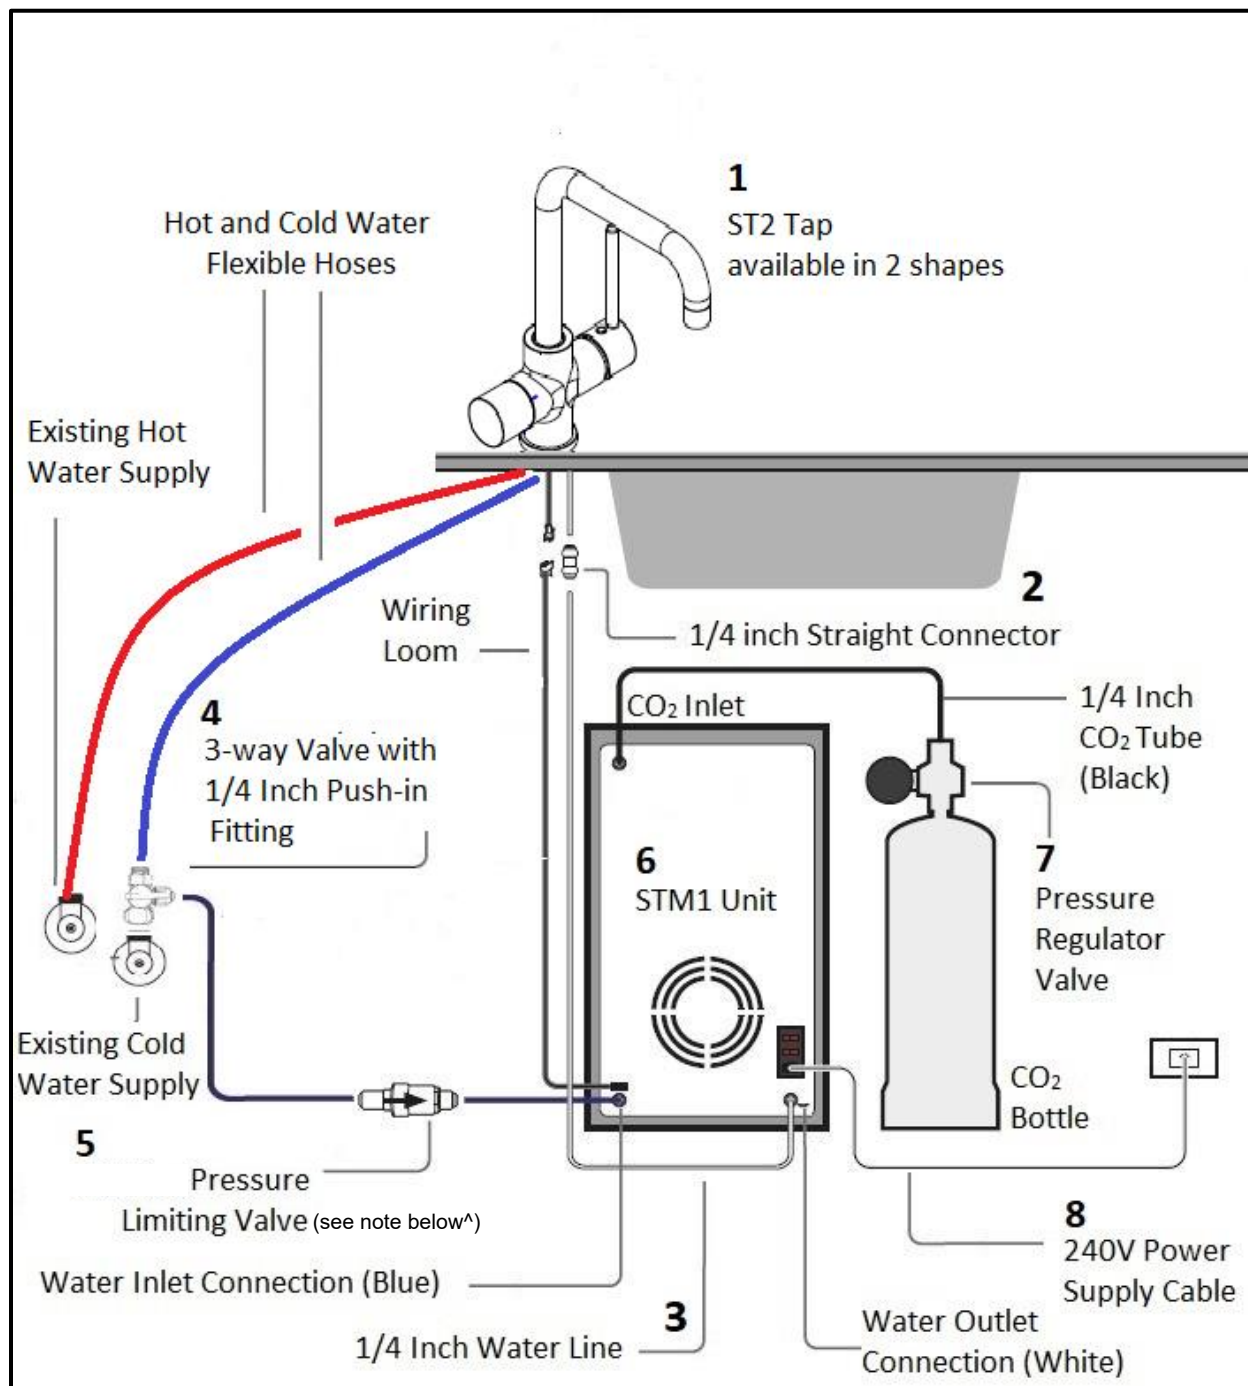

Figure 15: Complete STM1 Installation (ST2 tap and parts as listed)
7. Connect drinking water inlet pipe and 3-way valve to STM1 unit as illustrated in Figure 15: *Complete STM1 Installation (ST2 tap and parts as listed)*.